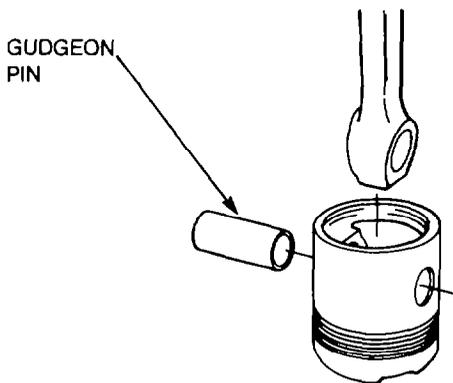

Figure 48 — Piston — Assembly
- ag. Using a suitable pair of insulated gloves remove a piston from the boiling water, position the connecting rod (as numbered) into the piston aligning the gudgeon pin holes, then push the gudgeon pin (as numbered) into the piston and through the connecting rod until seated, using a suitable blunt drift (see Fig. 48). Repeat this procedure until all the pistons are assembled.